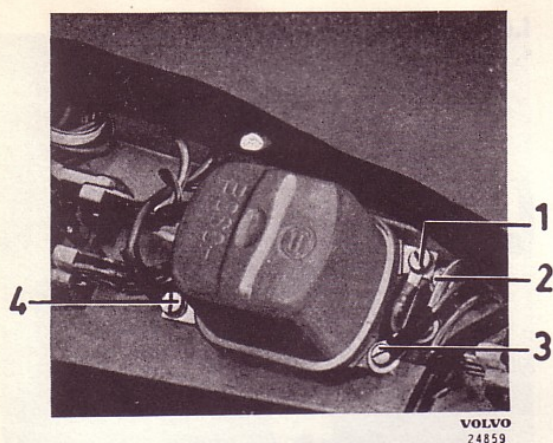

Fig. 35. Charging control terminals
3. Connect the leads as shown in Fig. 35 or according to the wiring diagram.